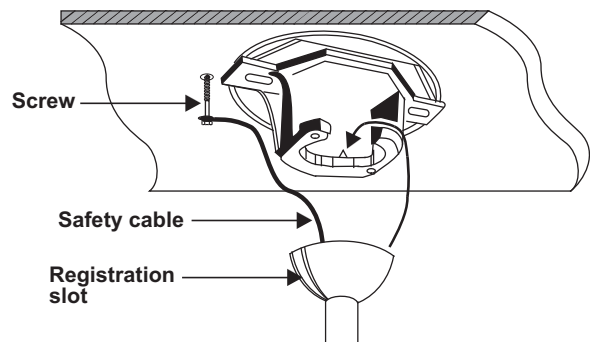

Figure 12
9. Now lift the motor assembly (fan with blades) into position and place the hanger ball into the hanger bracket. Rotate down rod until the "Check Tab" has dropped into the "Registration Slot" and the down rod and ball assembly seat firmly. The down rod and ball assembly should not rotate if this is done correctly. (Fig. 12)
10. An additional safety support is provided to prevent the fan from falling. Secure the safety cable to the ceiling joist with screw and washer. (Fig. 12)